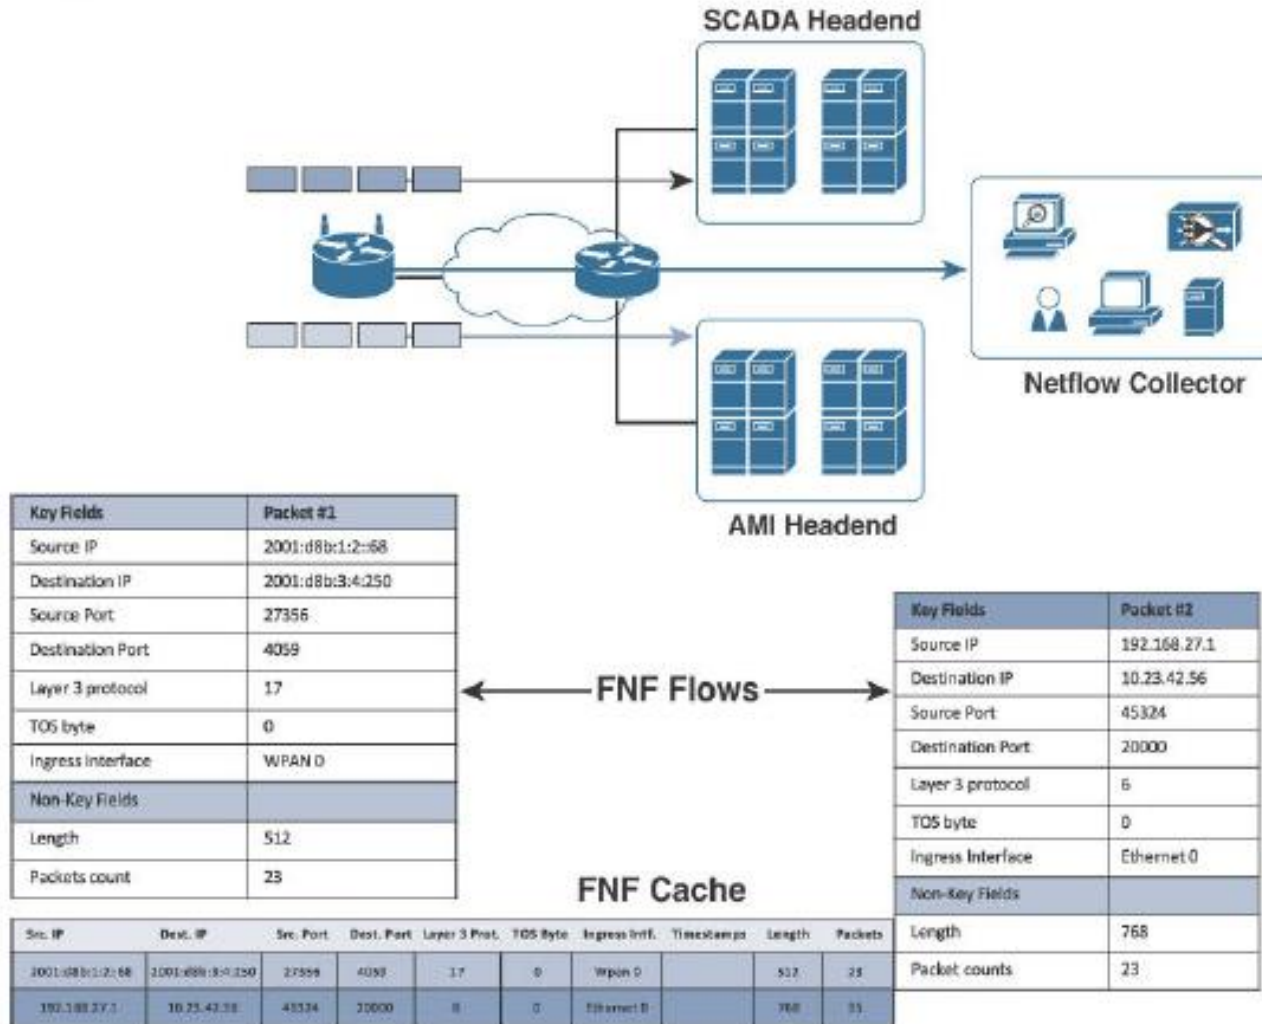

Figure 7.17 : Flexible NetFlow overview
- FNF has the following main components, as shown in the figure 7.17.